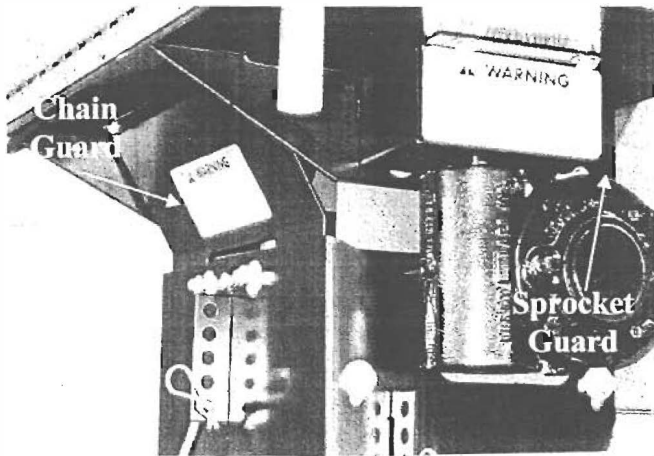

Figure 12
8. Install the chain guards using 1/4" x 3/4" long hex cap screws, lock washers, and nuts. See Figure 12.
9. Install the sprocket guard using 3/8" carriage bolts, lock washers and nuts. See Figure 12.